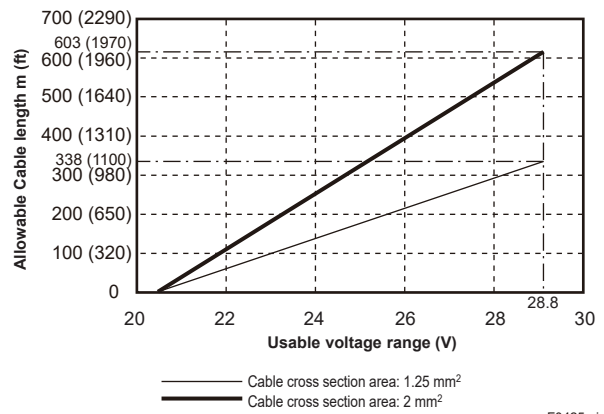

Figure 4.4.2 Supply Voltage and Power Supply Cable Length (Integral Flowmeter and AXW4A Remote Transmitter)
- For the 24 V power supply version (power supply code -2), the specification of 24 V (-15% to +20%) is the supply voltage between the terminals on the transmitter. Because of voltage drop by cable resistance, the supply voltage must be applied within the range of Figure 4.4.2.